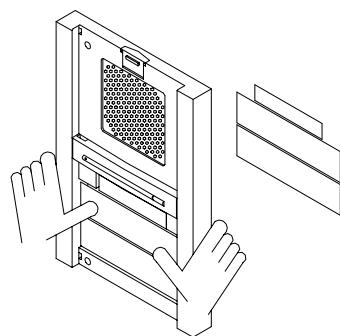

Figure 2-7: Punching out the disk cover
3. Punch out the disk cover of the plastic cover with your fingers. See Figure 2-7 below.